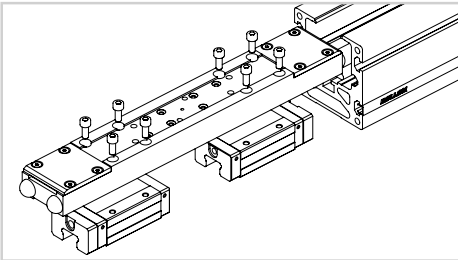

Fig. 16
- 18) Slide out completely the carriage to have access to both sliding blocks (Fig. 16). Remove the block to be replaced. To reassemble perform the same operations in reverse order paying particular attention to carriage alignment.